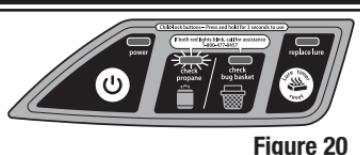

Figure 20
- Refill propane tank every 21 days or as needed. The CHECK PROPANE ( $\text{C}$ ) indicator light will light RED when propane needs to be refilled (Figure 20). Be sure POWER ( $\text{P}$ ) is off and unit is unplugged before changing propane tanks.